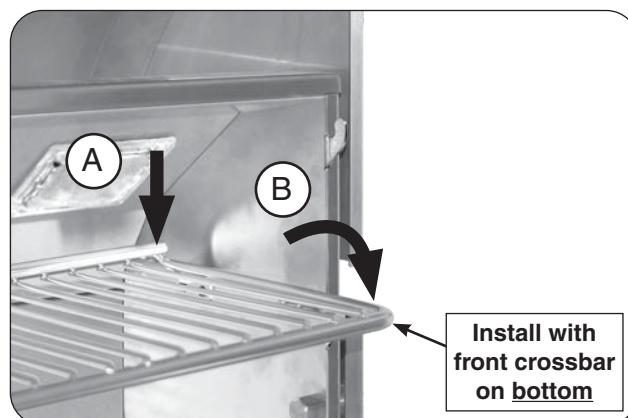

Fig. 25-2 Place warming rack for use
2. With the warming oriented as shown, carefully rest the rear of the rack onto the rear support plates (see Fig. 25-2, A), then lower the warming rack arms onto the lower hooks for use (see Fig. 25-2, B).